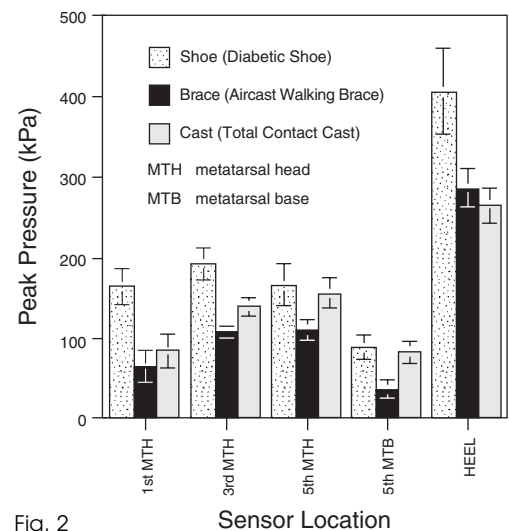

Fig. 2
- Rocker sole for reduction of plantar pressures (Fig. 2)
Aircast pioneered the use of the pneumatics in functional splints.4,5 The effectiveness of the XP Walker (formerly known as the PneumaticWalker™) in reducing plantar pressures has been documented in numerous studies. “The authors recorded the greatest average reduction in peak forefoot pressures with the Aircast (PneumaticWalker)”.1 When unweighting of the plantar foot and equalization of plantar foot pressures were compared in a total contact cast and the Aircast Walker, the results supported the recommendation to use the PneumaticWalker “as an alternative to total contact casting to unweight the foot in the treatment of neuropathic ulceration.”2 (Fig. 2)